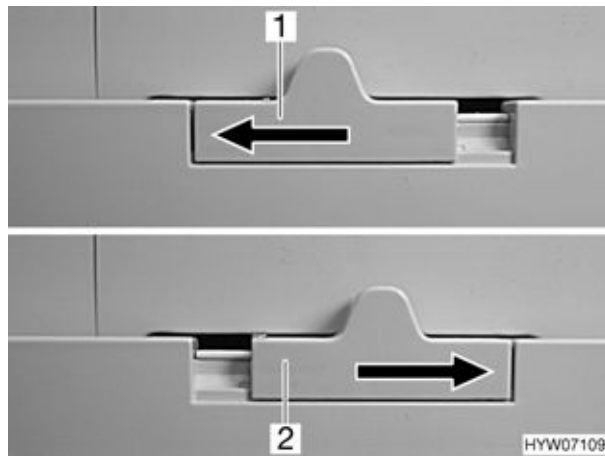

Fig. 153 Refrigerator door lock (variant 3)
- Push the lock (Fig. 153,1) to the left.
- Push the lock (Fig. 153,2) completely to the right.